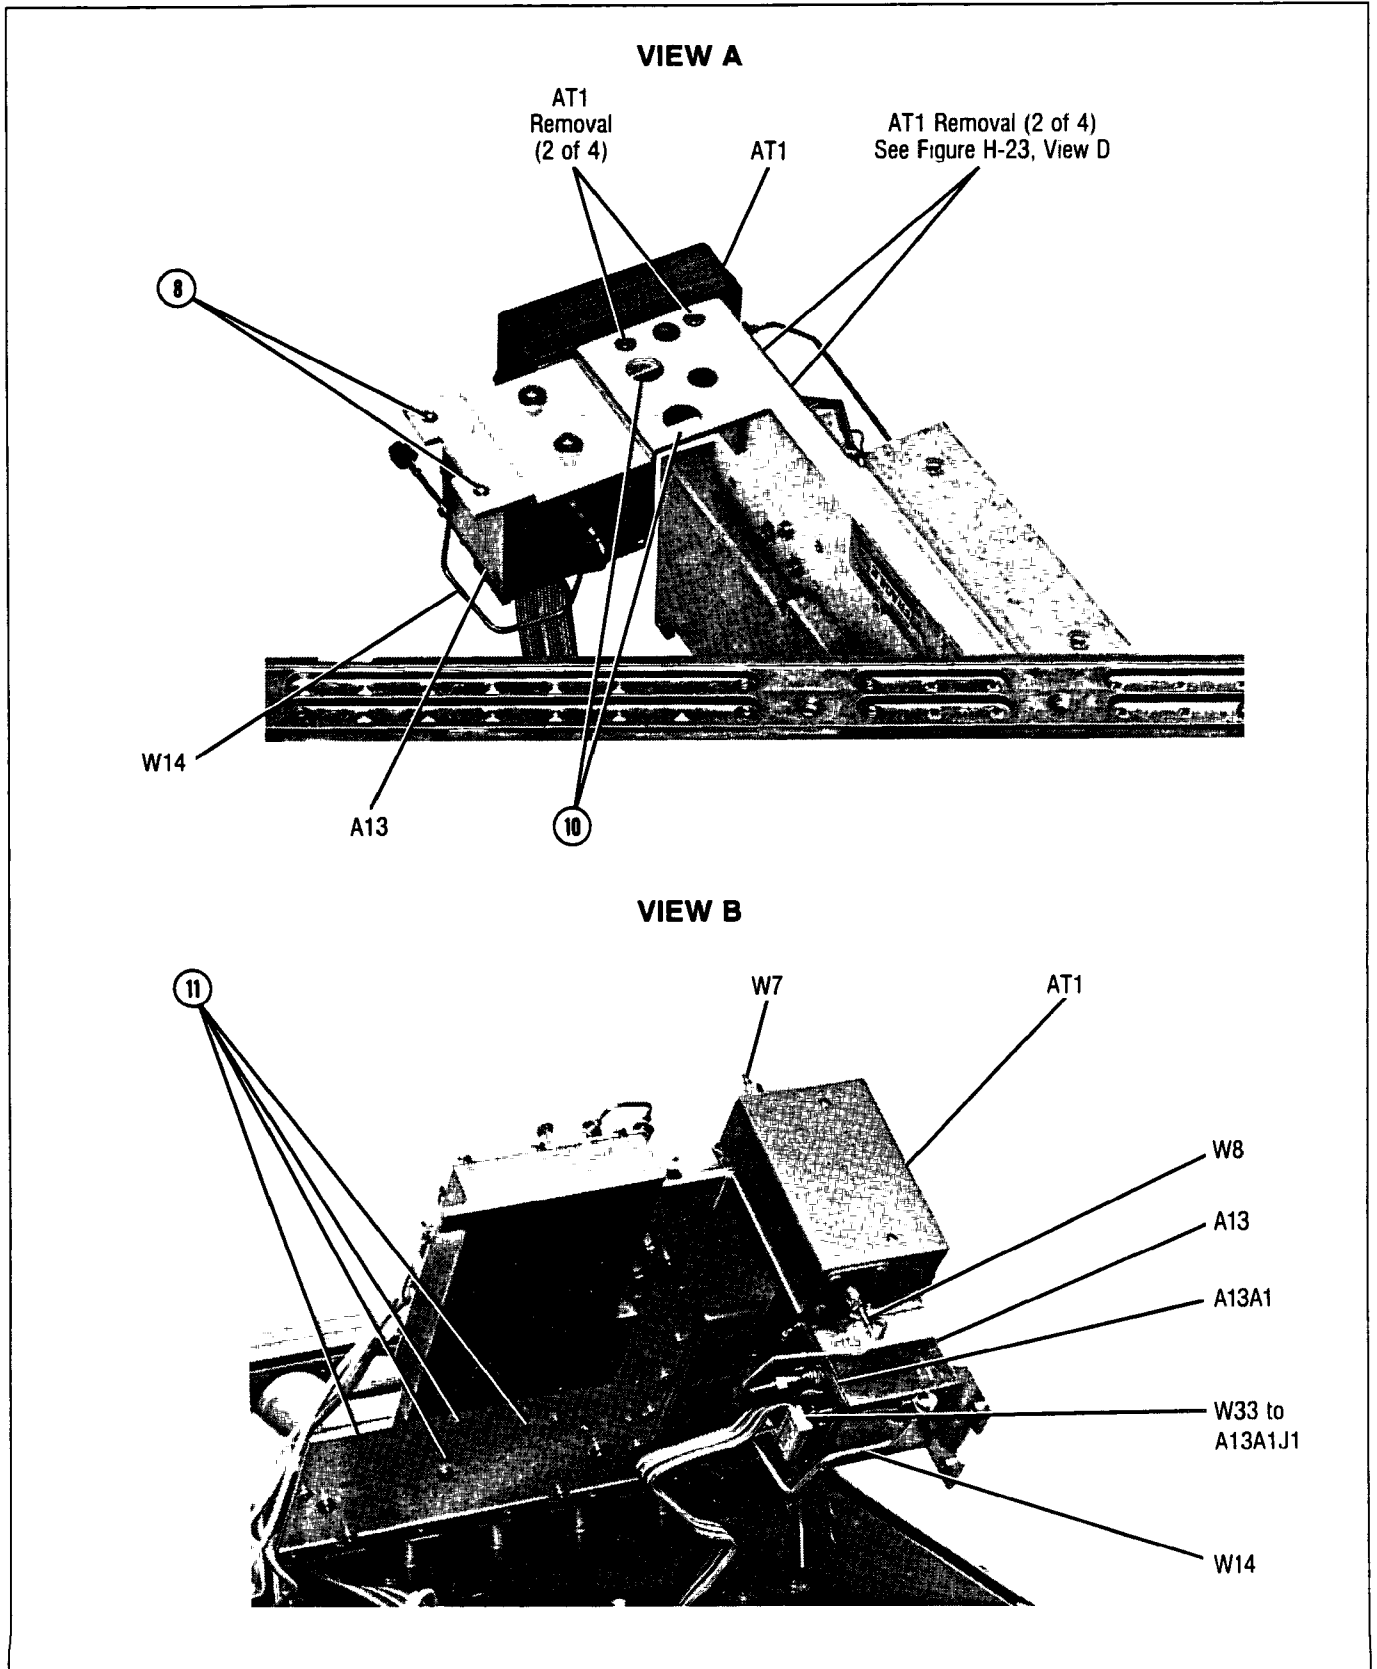

Figure H-24. A13, A13A1, A16, A18, and AT1 Assemblies, Cables, and Mounting Hardware Location
Refer to Figure H-23 and Figure H-24 for related assemblies, cables, and mounting hardware locations.
6. Holding the A13 assembly, remove the two screws (item 8) shown in Figure H-24.